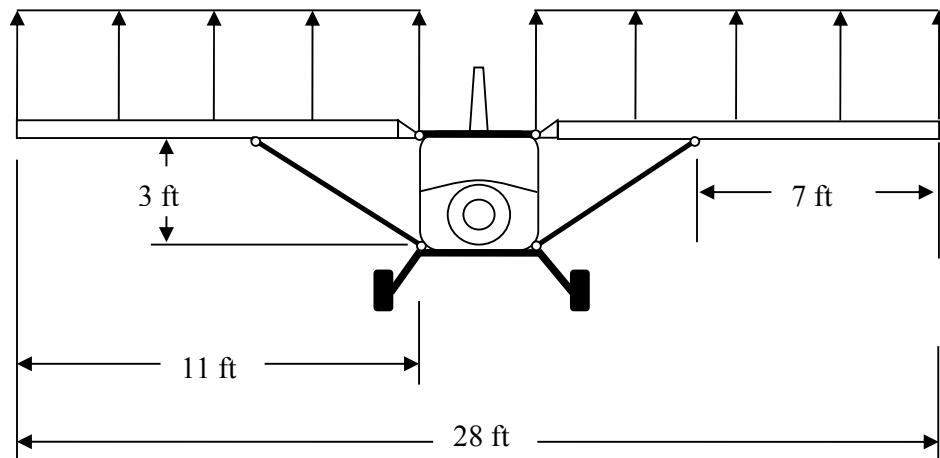

Figure 5/Rajah 5
5. In Figure 5, wings are pin-jointed to the struts and fuselage.